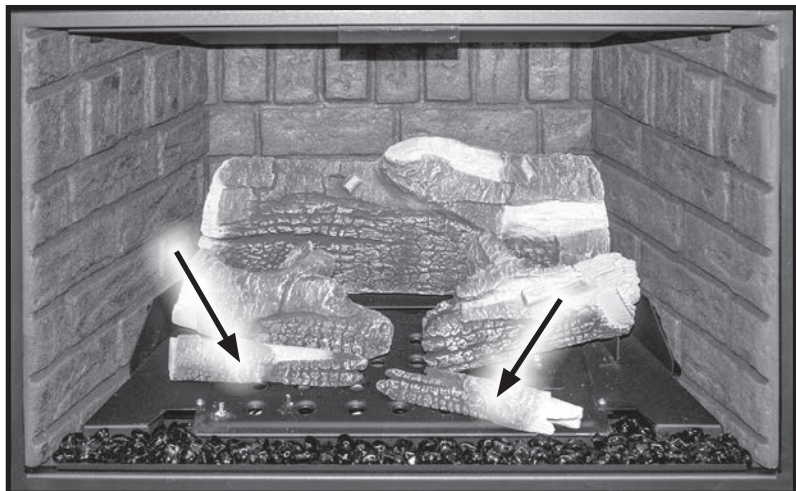

Figure 46. Front Ember Logs.
4. Next, Install the front two flat bottommed logs on the burner, as shown in Figure 46. Both logs have two drilled holes on the bottom that sit on the matching burner pins.